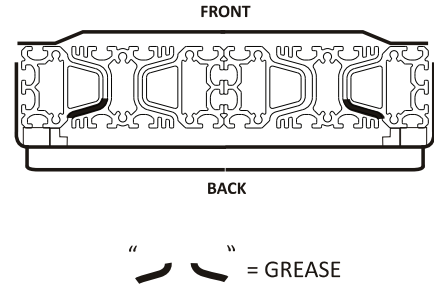

Figure 7-11
7. Apply grease to the tower sections. *See Figures 7-11 and 7-12.*